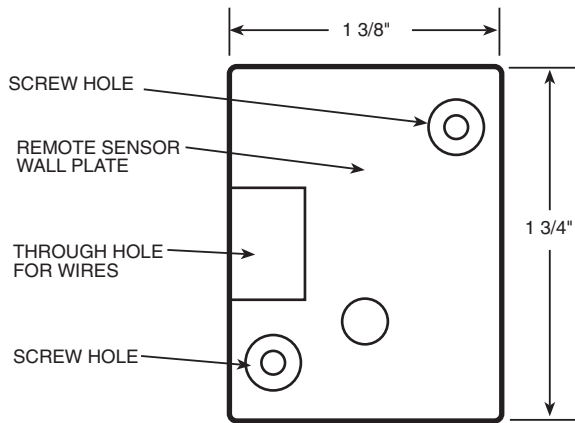

Fig. 1 — Wall Plate Mounting
1. Place the remote temperature sensor wall plate on the wall. Mark the mounting screw holes on the wall through the holes in the wall plate. See Fig. 1.
4. Run wiring from sensor to thermostat. Wiring should enter sensor through hole in wall plate. See Fig. 1. Do not run the sensor wiring in same conduit as the 24-v thermostat wiring.